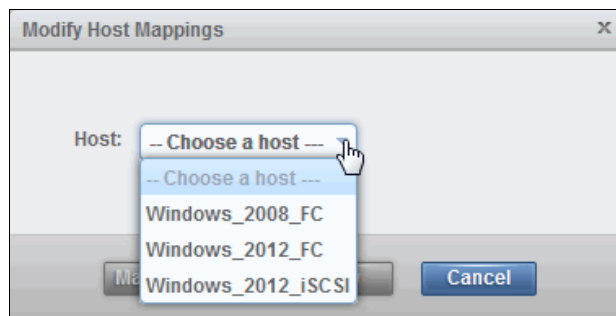

Figure 8-42 Modify Host Mappings pane
2. Select the Host to which you want to map the volume. Figure 8-42 shows the Modify Host Mappings pane.